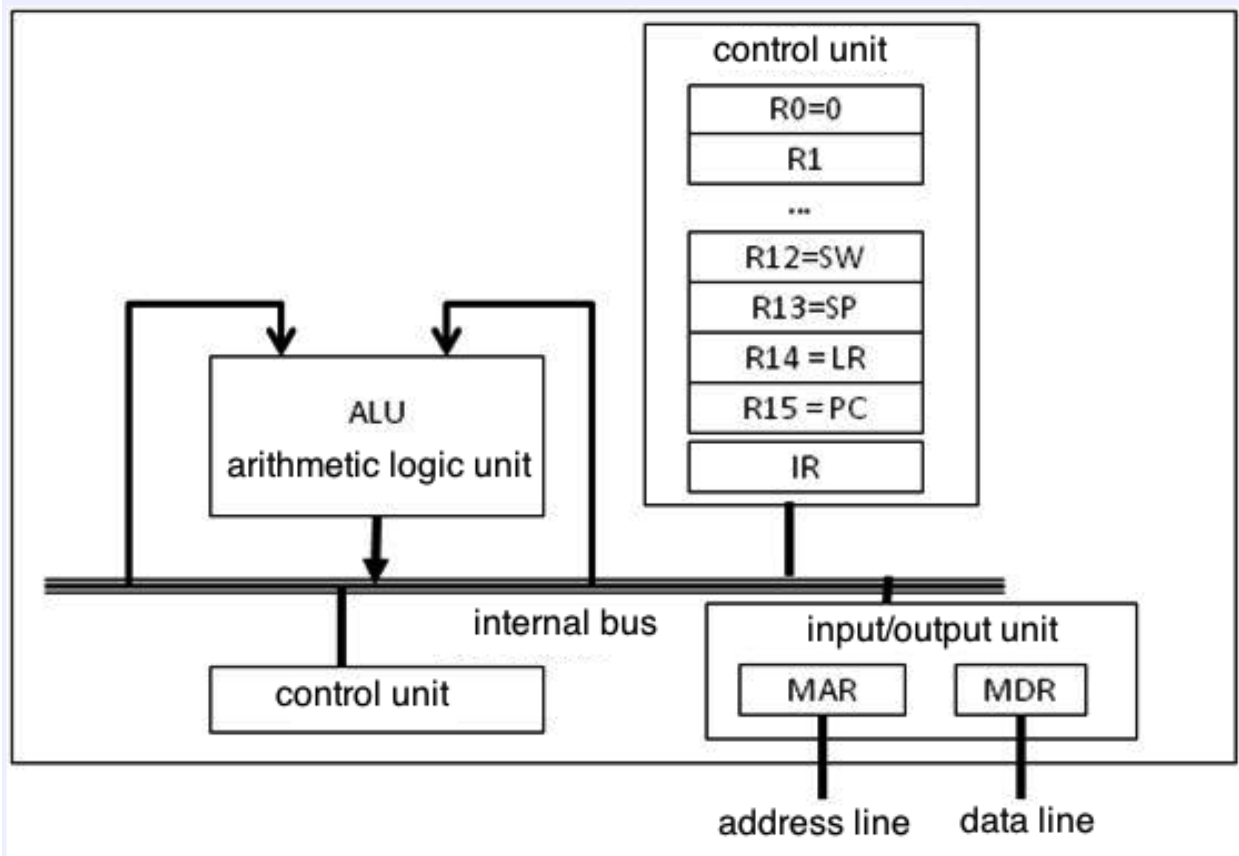

Figure 2.1: Architectural block diagram of the Cpu0 processor
Cpu0 is a 32-bit architecture. It has 16 general purpose registers (R0, ..., R15), the Instruction Register (IR), the memory access registers MAR & MDR. Its structure is illustrated in Figure 2.1 below.